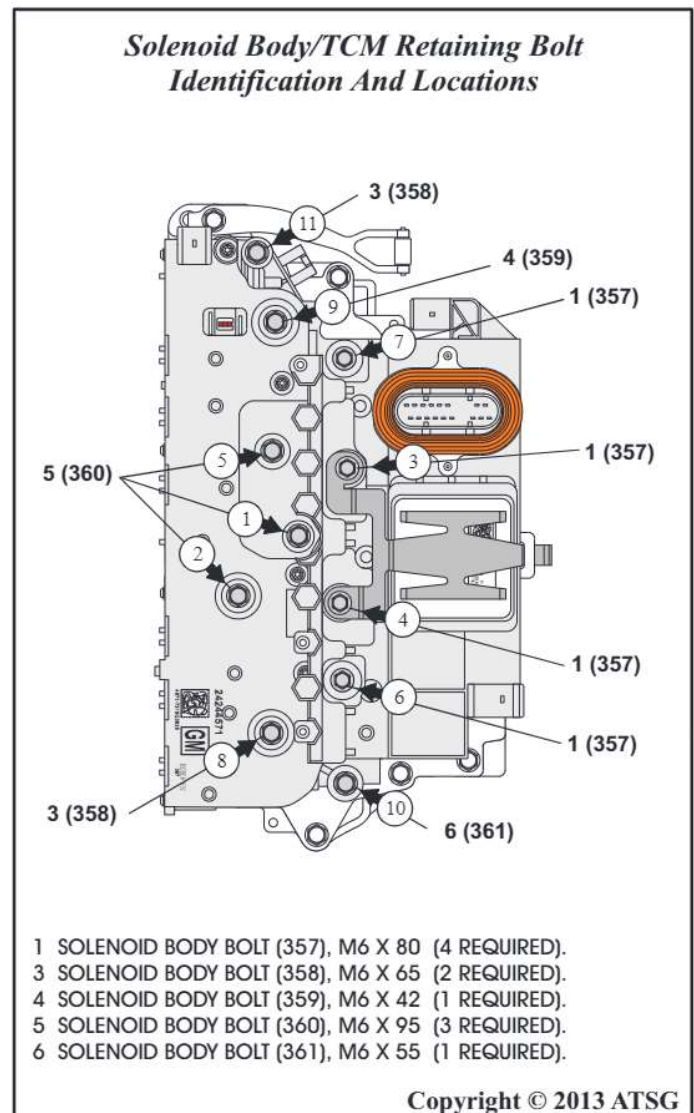

Figure 220
Note: All solenoid body & TCM assembly bolt lengths and locations are shown in Figure 220.
63. Torque all of the solenoid body & TCM bolts to 12 N•m (106 in. lb.), in the sequence shown in Figure 220.